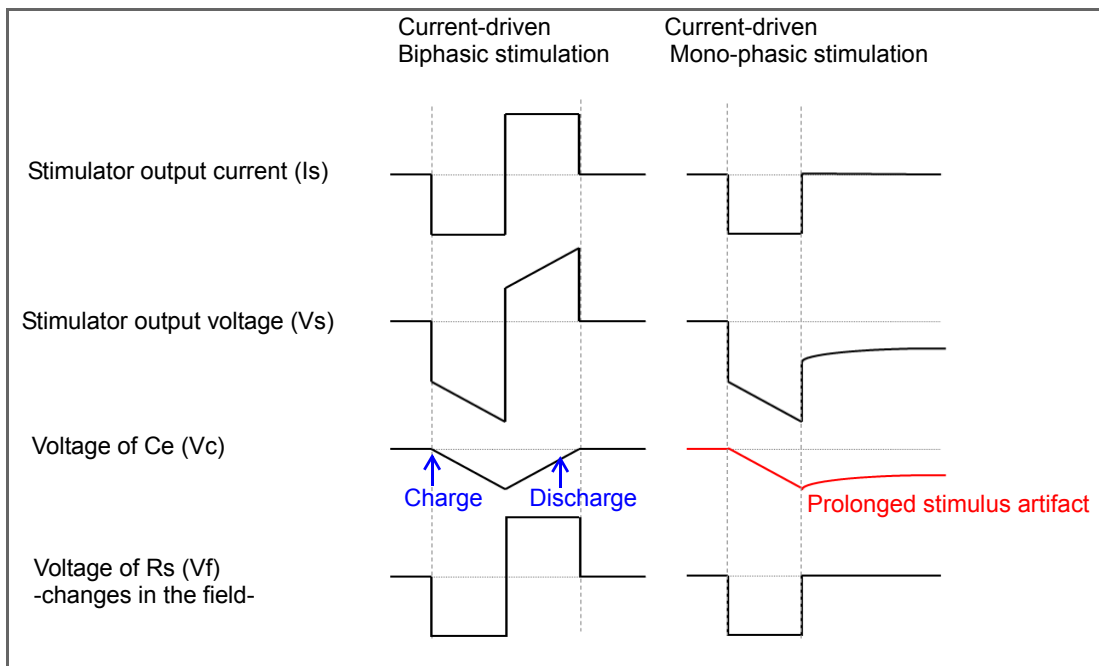

Fig.5. Biphasic stimulation and mono-phasic stimulation.
1. Make sure to apply **current-driven biphasic stimulation with identical durations for the negative and positive components** as seen in Fig.5.
When biphasic stimulation is applied, the electrode is charged and discharged quickly. However, when mono-phasic stimulation is applied the electrodes need longer time to discharge than to charge, which will dramatically prolong stimulus artifacts and damage electrodes. (Refer to the Fig.5.)